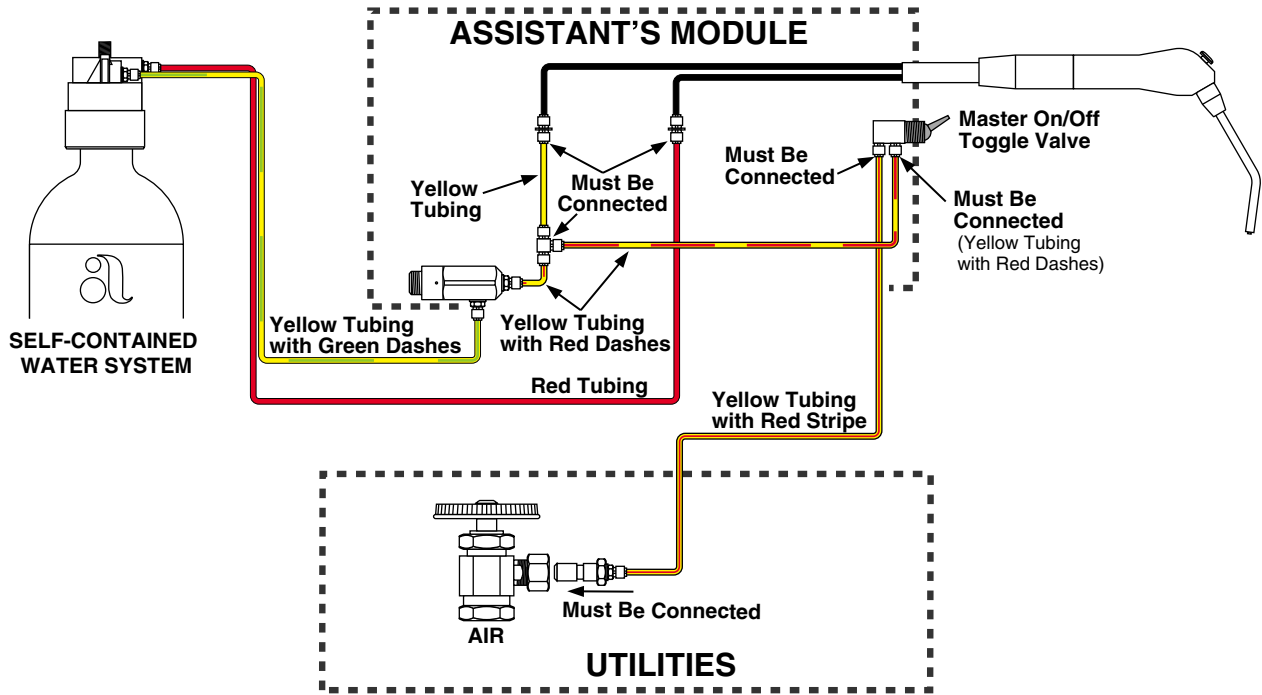

FIGURE 21
1. Connect the filter/regulators to the umbilical (see Figures 21 through 26 on pages 8 through 12).